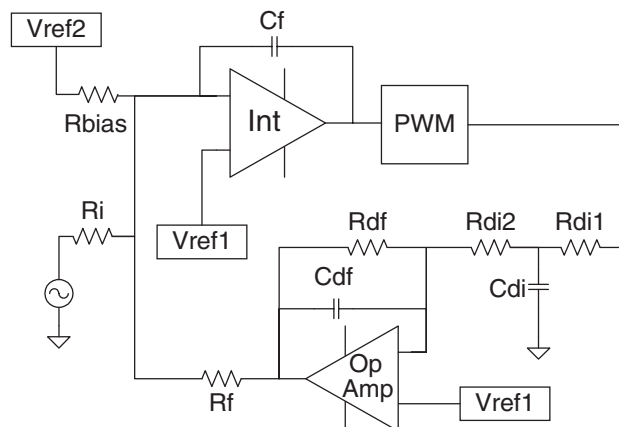

FIGURE 20. THE HALF-BRIDGE VERSION IS SIMPLER THAN THE FULL BRIDGE
A. The half-bridge output never goes negative, but the input signal is bipolar with respect to Vref1. This would be the case with bipolar input signals (single or dual supplies, Vref1=ground or above) or when input signals range from 0 to a positive level and the op amps are on a single supply (Vref1 is above ground). If Vref2 is more positive than Vref1, Rbias is capable of providing the shift. See Figure 20 for the half-bridge version of this circuit
This circuit in Figure 20 could be implemented using dual supplies for the op amps, but additional circuitry must be added to prevent integrator output swing below ground. Such an event would be in violation of the Absolute Maximum Input Voltage range of the PWM amplifier. Even if this caused no damage, a swing below the lower ramp peak does not result in any further voltage change at the output. It merely puts a big non-linearity in the system.